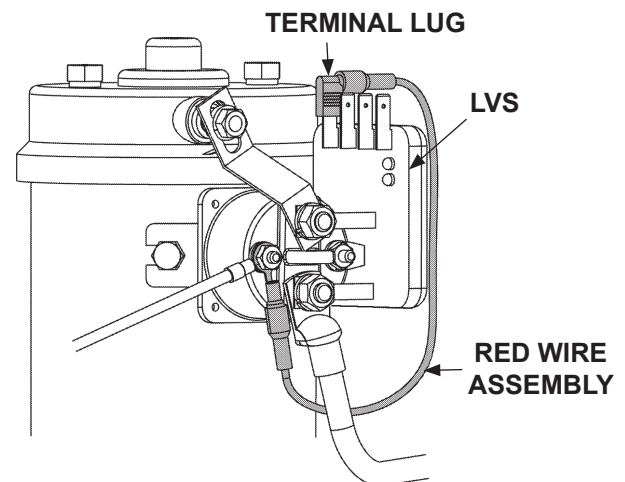

FIG. 3-2
4. Connect red wire assembly to terminals on top of the LVS as shown in **FIG. 3-2**.